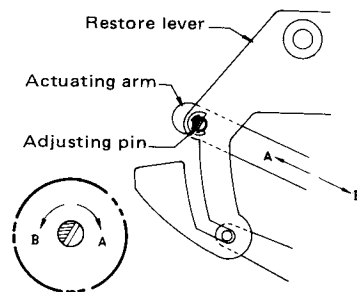

Fig. 3.
2. To adjust the auto return position, turn the eccentric pin on the restore lever (Fig. 3).